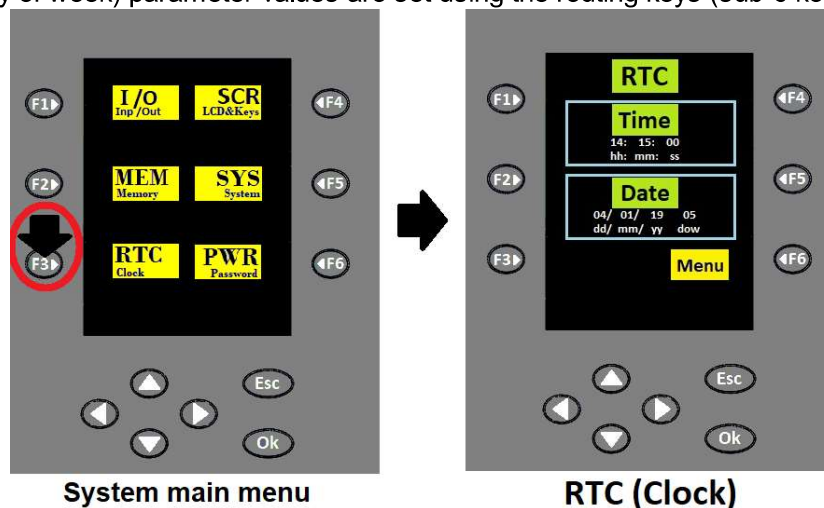

Figure 24 RTC setup
- As shown in **figure 24**, press “F3▶” the key which is beside the **RTC (Clock)** on the **system main menu** screen to enter the **RTC** menu screen. **RTC** (Real Time Clock), **time** (hh:hour / mm:minute / ss:second) and **date** (dd:day / mm:month / yy:year / dow:day of week) parameter values are set using the routing keys (sub-6 keypad).